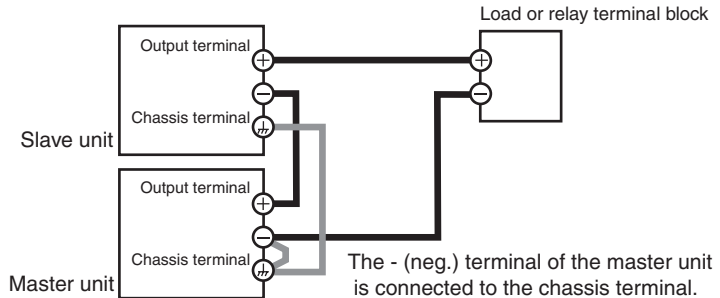

Fig. 6-3 Load connection example for series operation
- 4 As shown in Fig. 6-3, connect the load wires of the master and slave units to the load or the relay terminal block.